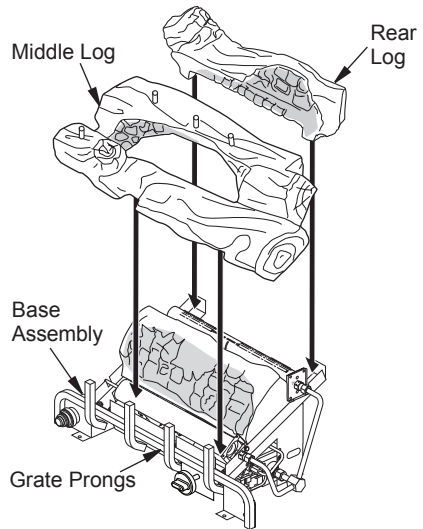

Figure 19 - Installing Rear and Middle Logs
2. Rest rear log in back corner sections of base assembly as shown in Figure 19. Make sure log is completely vertical and not leaning in toward burner where the flame will touch the log.
3. Position middle log as shown in Figure 19. Pull log forward against grate prongs making sure grooves in bottom of the log fit against grate prongs. This log will rest on top of bottom log.